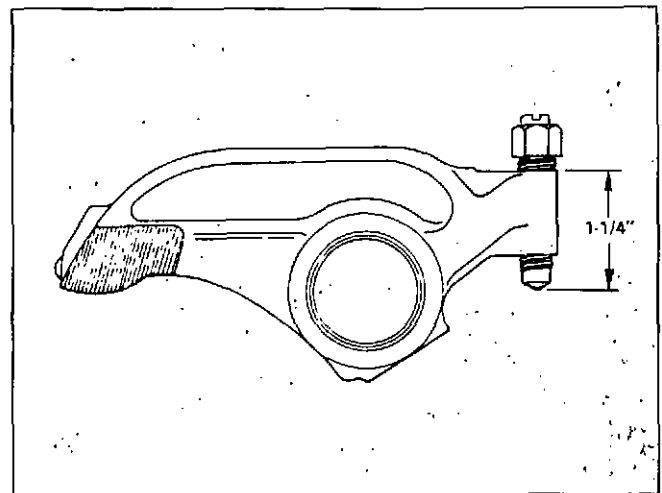

Fig. 14-68. The Correct Position For The Adjusting Screw..
2. Loosen the locknuts for the adjusting screws. Loosen the adjusting screws so that there is a maximum of 1.250 inch [31.8 mm] from the top surface of the lever and the ball end of the adjusting screw, Fig. 14-68.
Caution: If the adjusting screw protrudes beyond the maximum shown in Fig. 14-68, the push rods can be damaged when you tighten the capscrews for the housing.